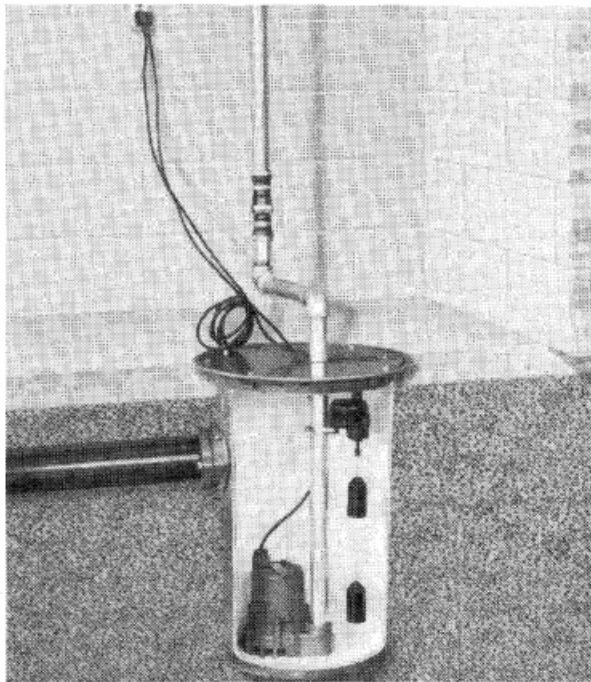
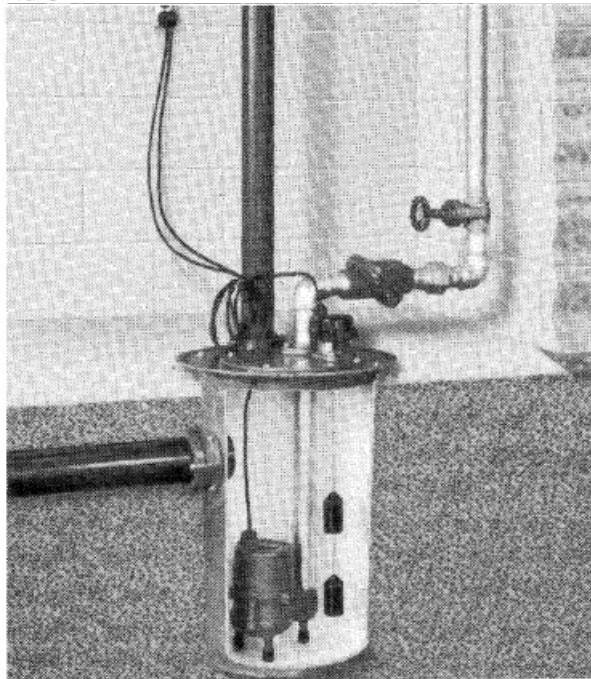

FIG. 3
FIG. 4
- Switch can be mounted on the discharge pipe under the cover as shown in Fig 3 or can be mounted through flange on pump cover for sewage pump application as shown in Fig 4.
- When switch is mounted on discharge pipe Fig 3, the switch must be positioned so that weights hang free without touching pump and are opposite inlet pipe as shown.
- When switch is mounted through cover Fig 4, cable must be pre-cut and weights set on cable before installing.
- In either type installation, Fig 3 & Fig 4, be sure all excess pump and control cord is taken above basin and is coiled and taped as shown Fig 3 & Fig 4. Do not leave excess cable in basin as it may tangle with weights and cause switch to malfunction.
- Where switch is installed through flange Fig 4, be sure sealing "O" ring is in place in flange so that switch body will seal when pushed into flange. When metal flange is supplied, adjust set screw in flange so that switch will be held in place.
6. Be sure excess pump and control cord is coiled and taped above sump cover. See Fig 3 & Fig 4.